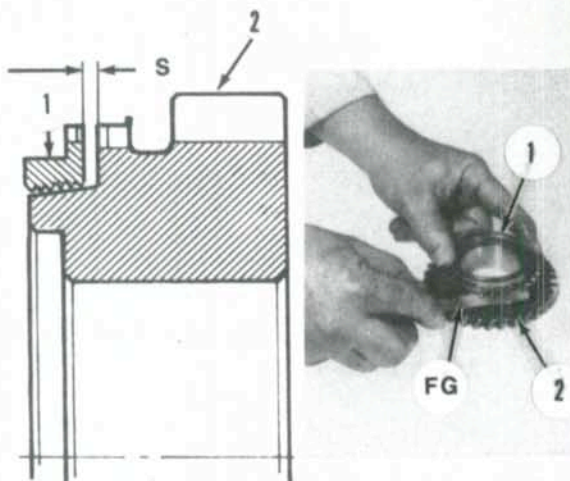
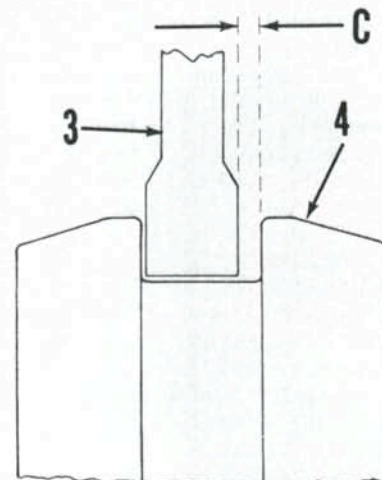

Fig. 217—Measure clearance (S) between teeth of synchronizer ring (1) and gear (2) using a feeler gage (FG) to check synchronizer cone wear.
Fig. 218—Side clearance (C) between shift forks (3) and grooves of sliding collars (4) and range sliding gears should not exceed 1.0 mm (0.039 inch).
Inspect all parts for excessive wear or damage. Check synchronizer cone wear by measuring clearance (S—Fig. 217) between teeth of synchronizer ring (1) and gear (2). Renew parts as necessary if clearance is less than 0.5 mm (0.020 inch). Renew synchronizer ring and/or gear if teeth are worn or broken. Clearance (C—Fig. 218) between shifter forks (3) and grooves of synchronizer collars (4) and range sliding gears should be 0.10-0.30 mm (0.004-0.012 inch) with a wear limit of 1.0 mm (0.039 inch).
Inspect all parts for excessive wear or damage and renew if necessary. Maximum allowable backlash between gears is 0.30 mm (0.012 inch). Check synchronizer cone wear by measuring clearance (S—Fig. 217) between synchronizer ring (1) and gear (2) using a feeler gage. Renew parts as necessary if clearance is less than 0.5 mm (0.020 inch). Renew ring and/or gear if teeth are worn or broken. Side clearance (C—Fig. 218) between shifter forks (3) and synchronizer sliding collars (4) or range sliding gears should not exceed 1.0 mm (0.039 inch).